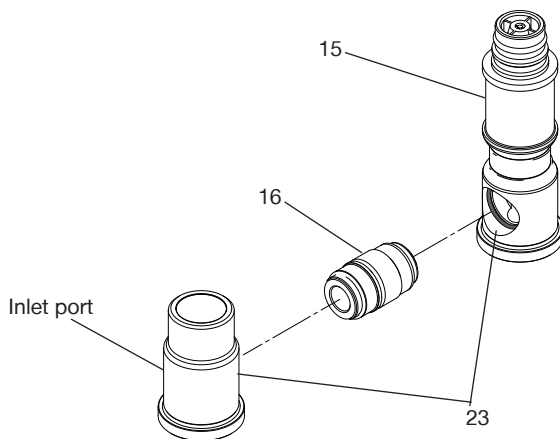

Fig. 9
Note - For the correct operation of the NRV assembly (Item 16), the 'O'-rings (item 23) must be sat into the inlet port and lower flow switch assembly holes before fitting the NRV assembly as shown in Fig. 9.